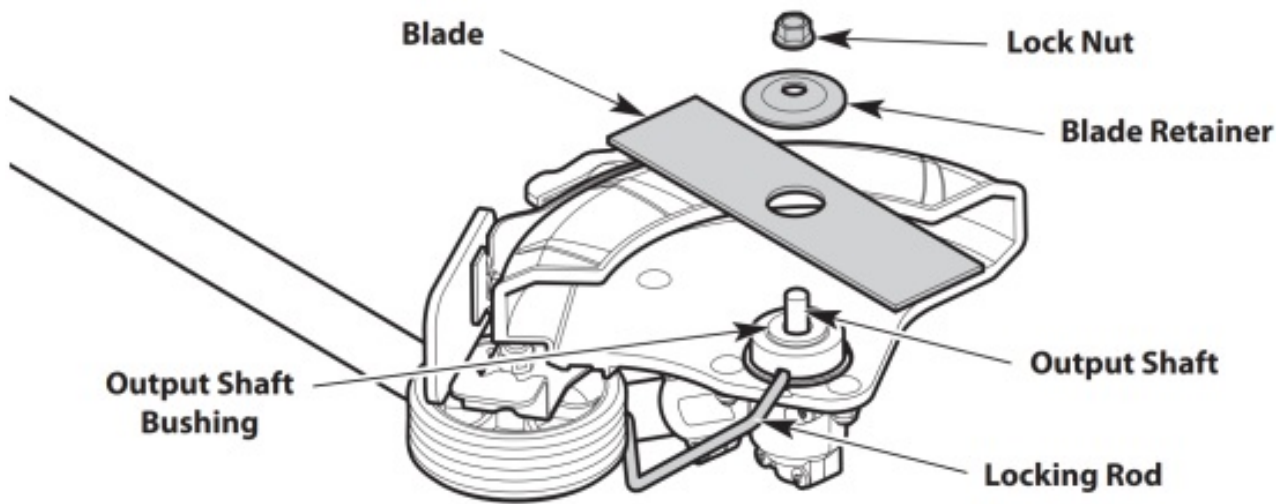

Fig. 10
4. Remove the locking rod. Remove the lock nut, blade retainer, and blade (Fig. 10). Keep the lock nut and blade retainer for installing the new blade.
1. Lower the new blade onto the output shaft bushing (Fig. 10). Make sure the blade is flat against the output shaft bushing.
2. Place the blade retainer onto the output shaft with the flat surface against the blade (Fig. 10).
3. Screw the nut onto the output shaft (Fig. 10).